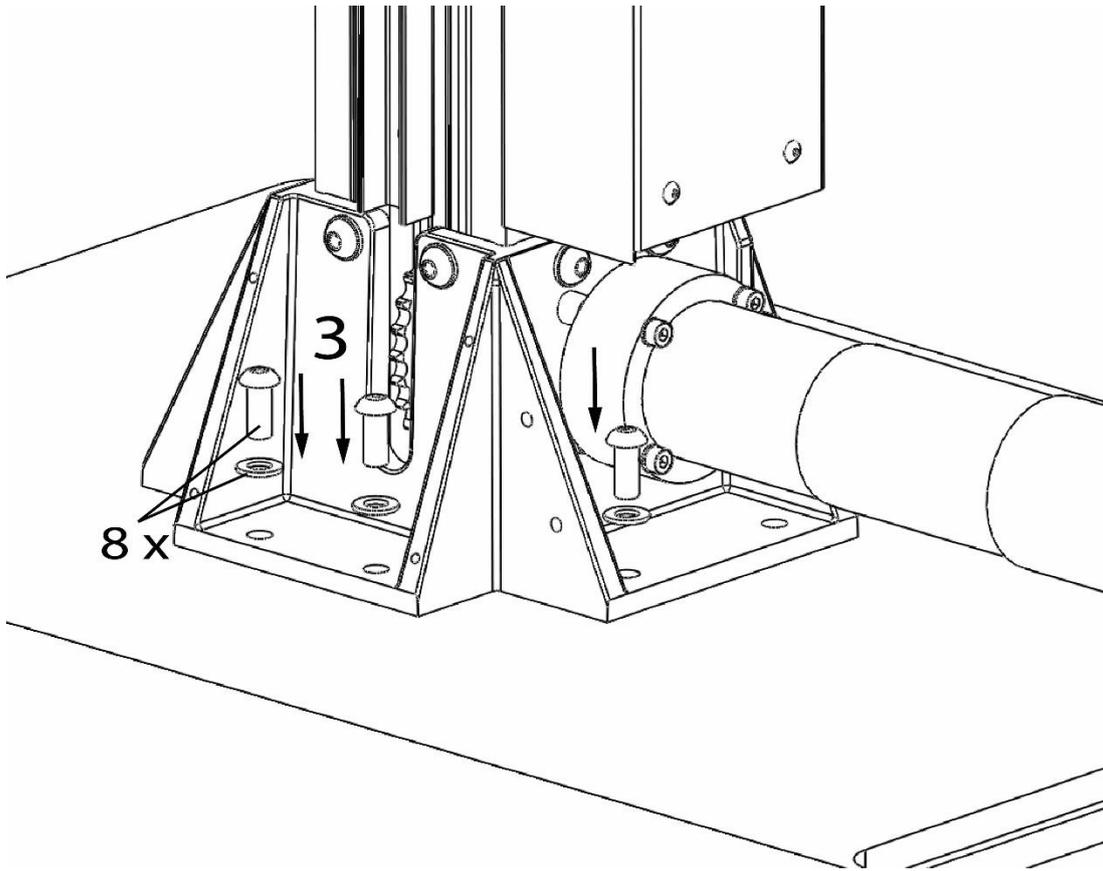

Figure 4: Installation of mounting screws
8. Locate the included M8 screws (8 pcs) and washers (**hardware bag 2**). Put the washers onto the screws, then insert the screws into the holes of the lower support and thread them into the Base Plate / floor (**figure 4**). Using a T40 wrench, **tighten the screws to 20 Nm**.